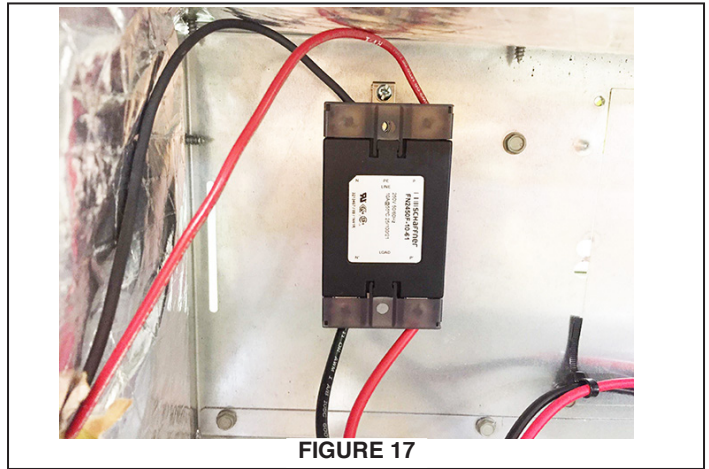

FIGURE 17
7. Connect the incoming power wires to the line side of the EMI filter. See Figure 17.
8. Connect the 2 wire unit harness to the load side of the EMI filter. See Figure 17.